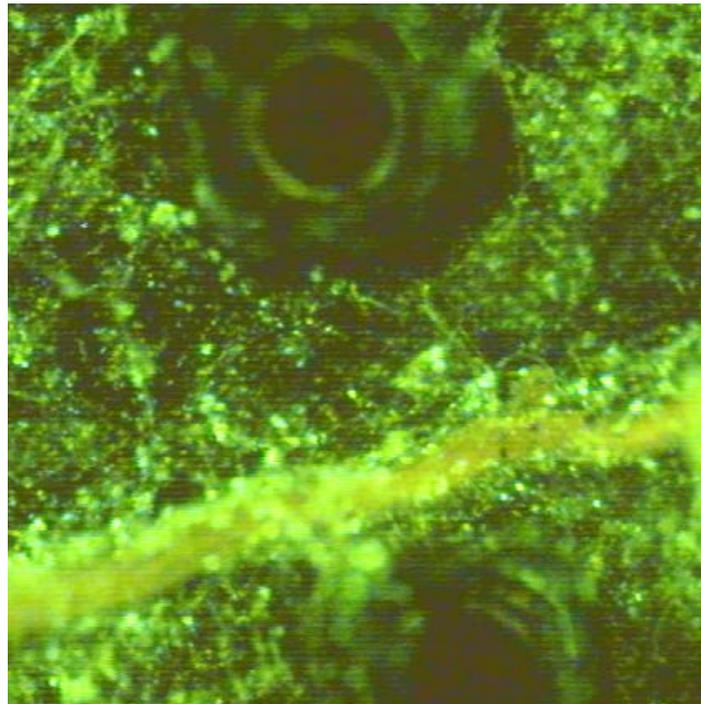

Figure 2. Bright green spots on the root, hyphae, and horticultural mesh indicate the presence of glomalin at these locations.
- 6) Develop with VectaShield mounting media and observe under epi-fluorescence using a blue filter (Fig. 2).